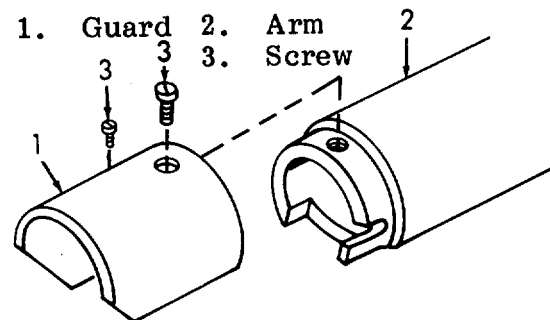

Figure 6-102. Latch Guard and Latch, Installation.
- (6) Refer to Figure 6-102. Install latch guard (1) into place over mounting holes in lower arm (2). Be sure to catch the notch in the bobbin case.
- (7) Install two mounting screws (3) and tighten.